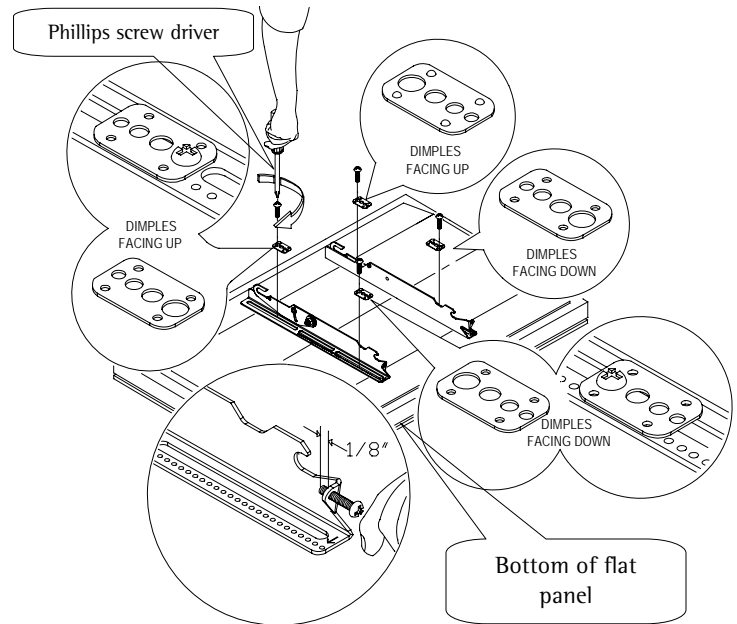

Figure 7
**NOTE:** The dimples of the top plates have to be facing up and the bottom dimples must be facing down. Use (1) Griplate™ per mounting point (Figure 7).